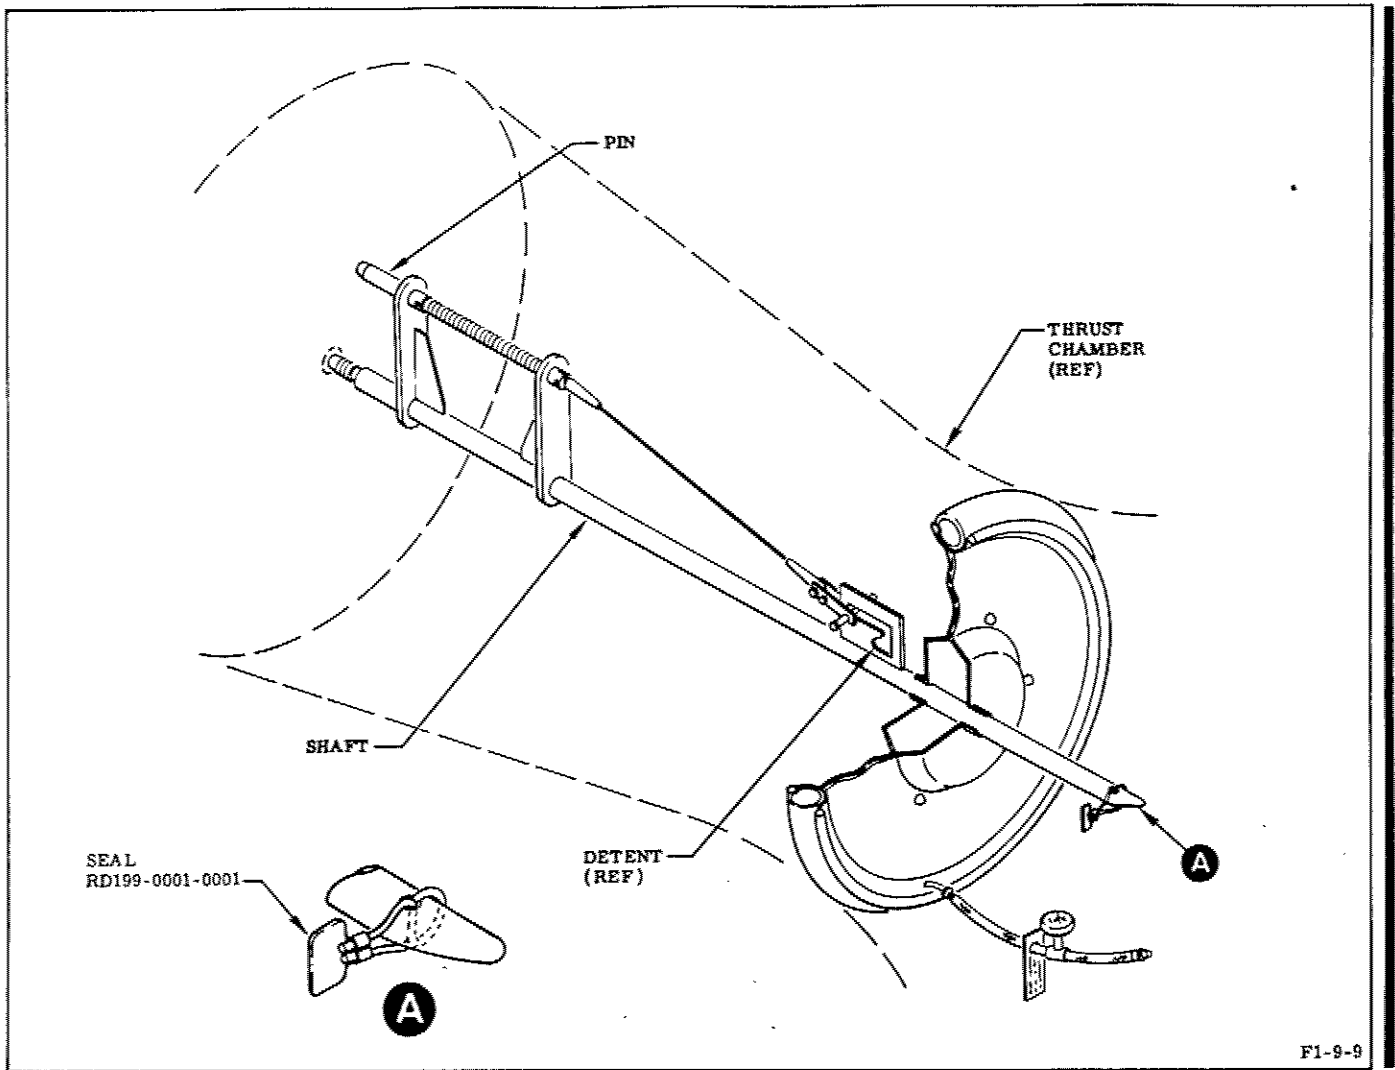

Figure 1-5. Installing Thrust Chamber Throat Security Closure
**1-12. INSTALLING THRUST CHAMBER THROAT SECURITY CLOSURE.** (See figure 1-5.)